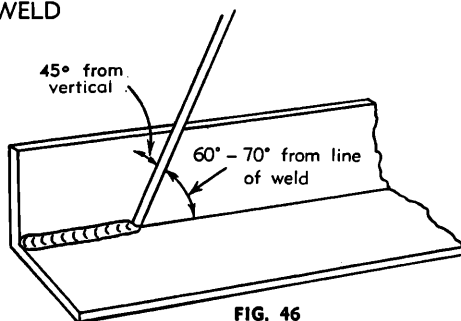
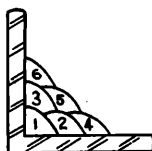

FIG. 46
FIG. 47
A piece of angle iron is a suitable specimen with which to begin, or two lengths of strip steel may be tacked together at right angles. Position the angle iron so that the two legs are at 45 deg. to the bench and run in a weld bead using a similar technique as for butt welds, using an 8-gauge VODEX electrode at 160 amps. When you are familiar with this, position another piece of angle iron with one leg horizontal and the other vertical. This is known as a horizontal-vertical (HV) fillet. Strike the arc and immediately bring the electrode to a position perpendicular to the line of the fillet and about 45 deg. from the vertical. Some electrodes require to be sloped about 20 deg. away from the perpendicular position to prevent slag from running ahead of the weld (see Fig. 46). Do not attempt to build up much larger than 1-in. leg length with an 8-gauge electrode, otherwise the weld metal tends to sag towards the base, and undercut forms on the vertical leg. Multi-runs can be made as shown in Figure 47. Weaving in HV fillet welds is undesirable.